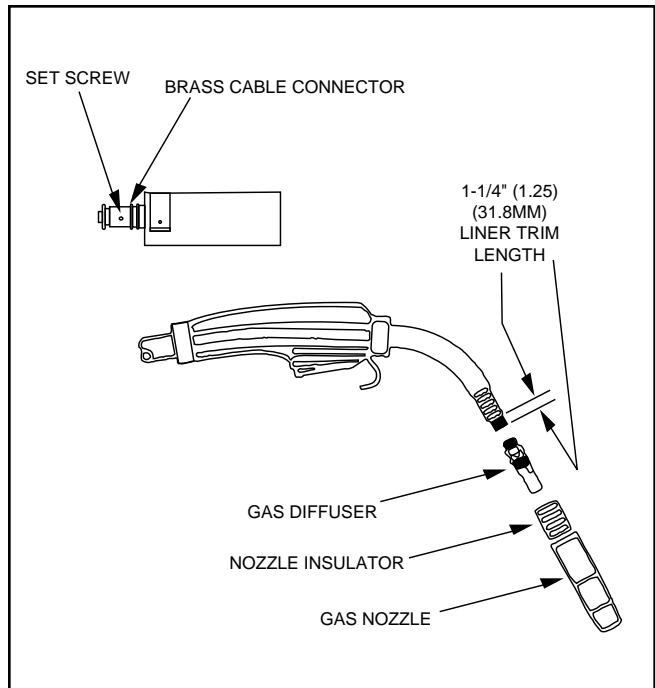

FIGURE D.2 - Liner maintenance.
11. Trim the liner to the length shown in FIGURE D.2.